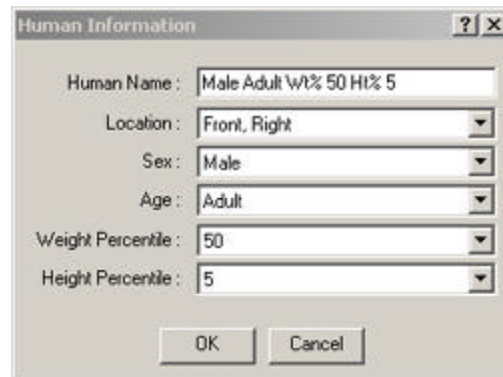

Figure 5-1: Human Information dialog
- Use the option buttons to choose the following human attributes (Figure 5-1).